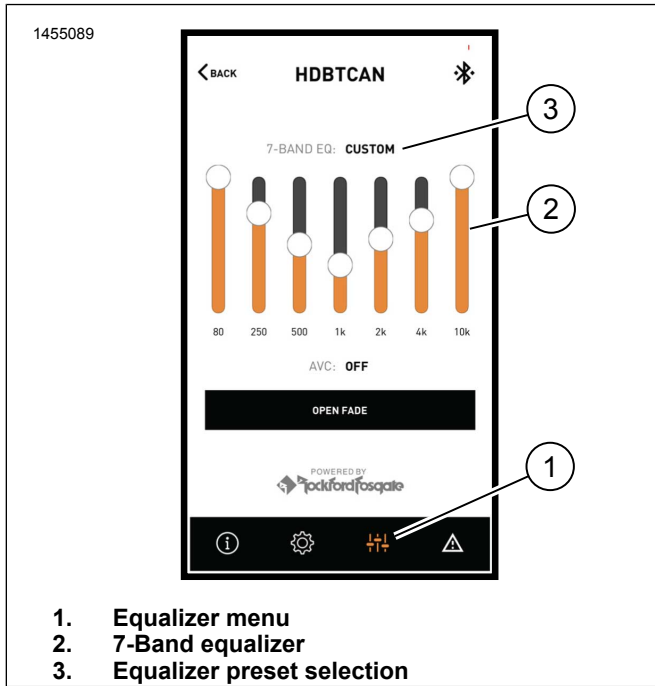

Figure 10. Equalizer Menu
4. See Figure 10. Equalizer setup screen.
- a. Equalizer setup icon (1)
- b. Tune 7-Band equalizer (2) frequencies.
c. Custom or preset equalizer selections (3).